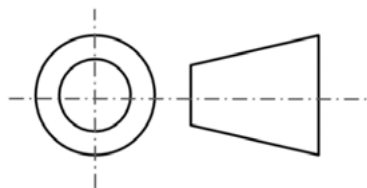

Fig. 5
- 12 (a) State what the symbol in **Fig. 5** represents in an orthographic drawing.